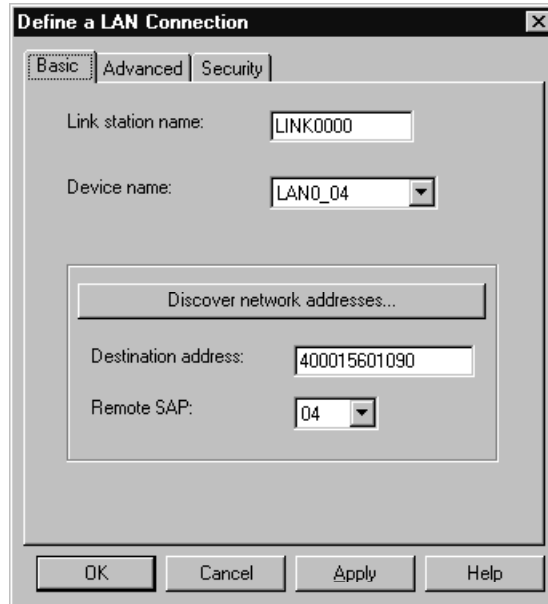

Figure 73. Define a LAN connection window: basic page
- 3 On the Basic page, use the values that are shown in Figure 73 for the following fields: